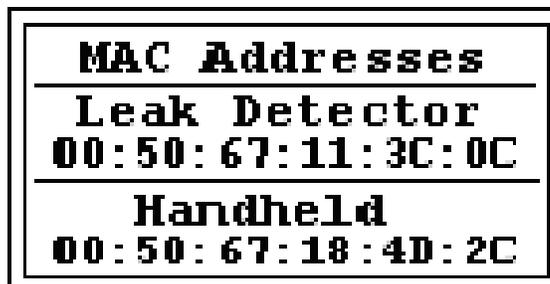

Figure 2-32 Verify MAC Addresses Screen
7. Press **Enter** and the *Mac Addresses* screen appears (Figure 2-32), for example.